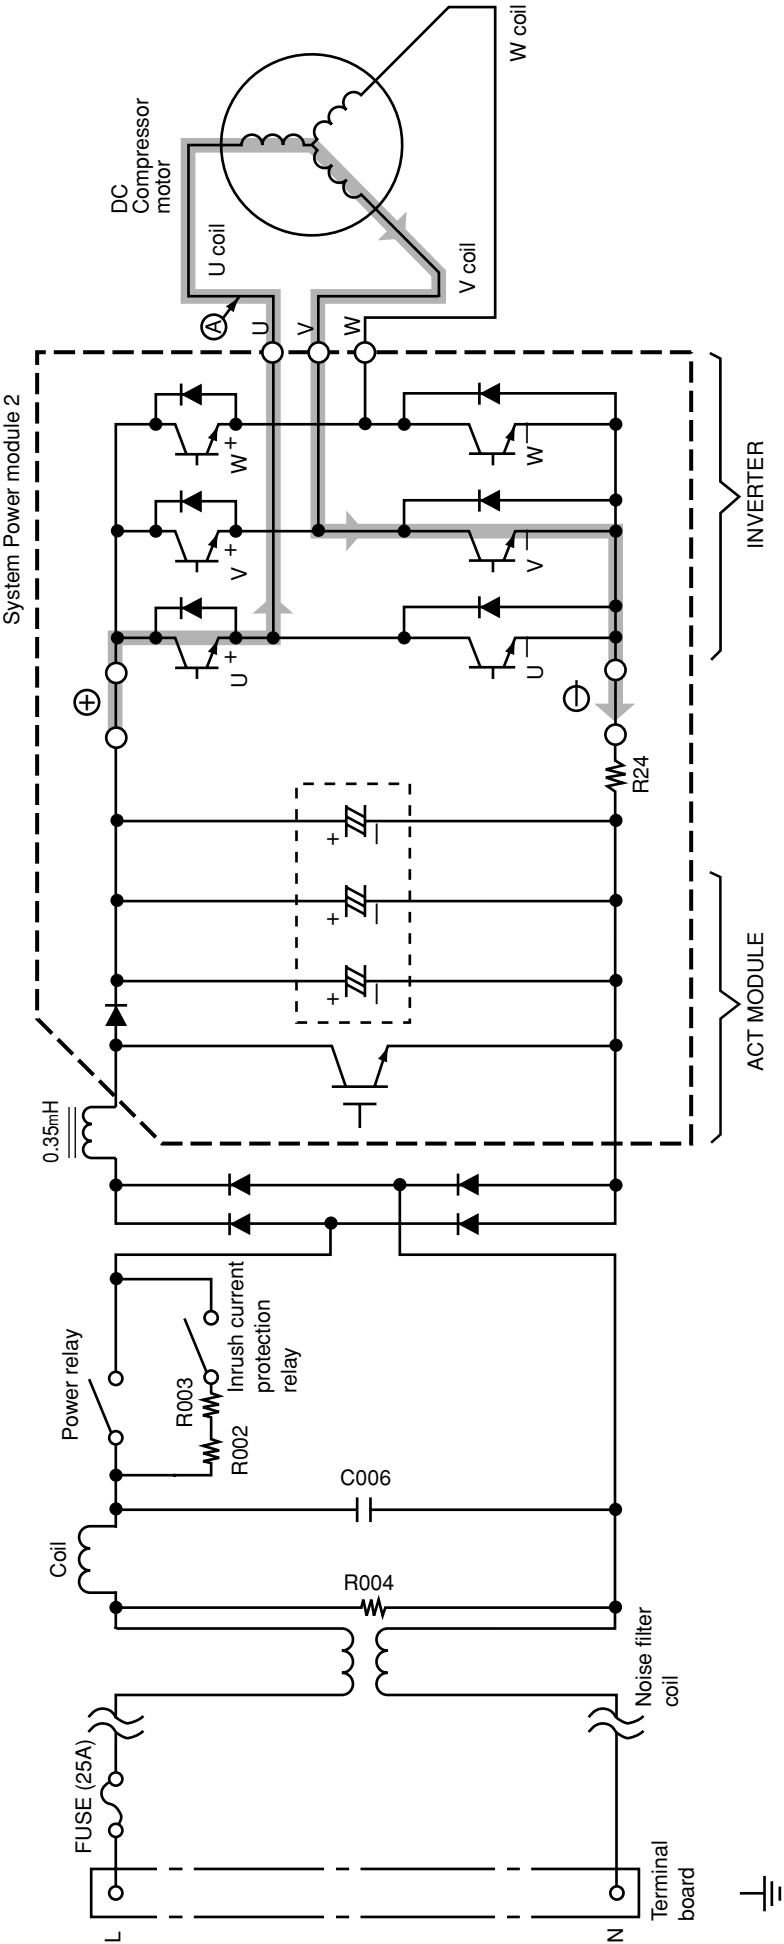
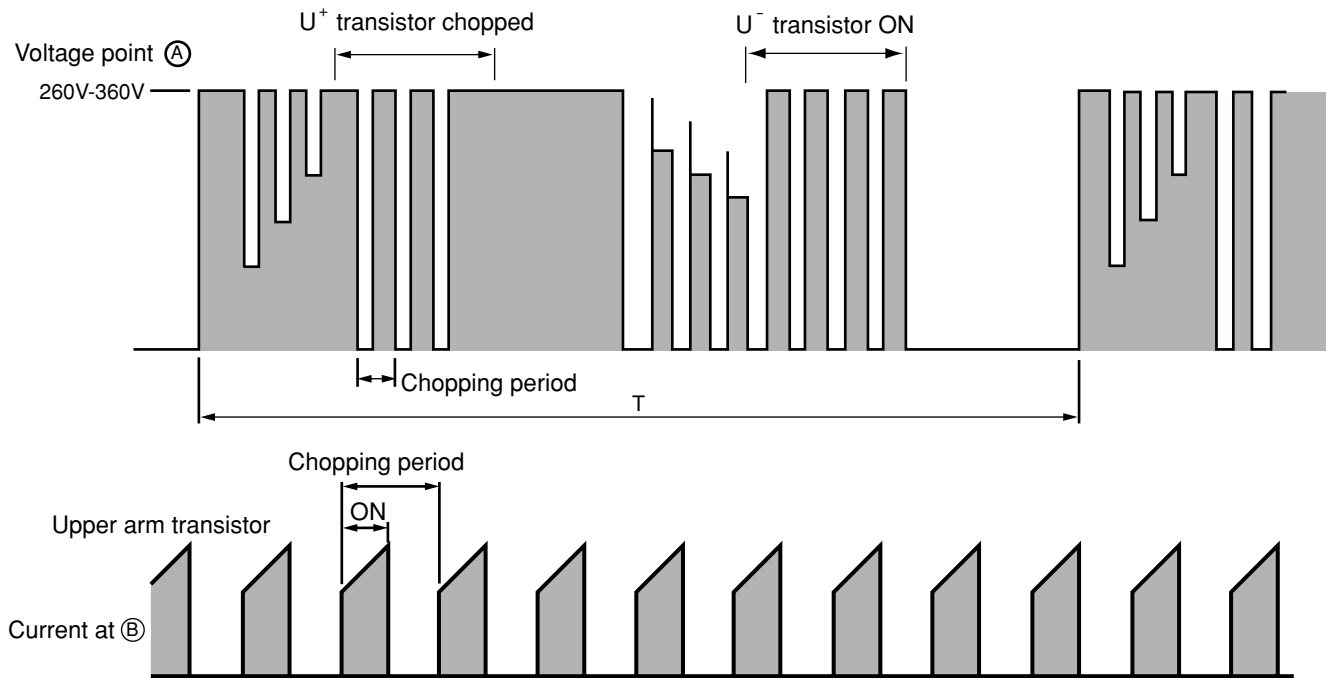

Fig. 3-1 System power module circuit (U⁺ is ON, V⁻ is ON)
Fig. 3-3 Voltage waveform at each point
- Fig. 3-1 shows the system power module and its peripheral circuit. (Current ACT module and power module are combined into one unit.) The three transistors on the positive \oplus side are called the upper arm, and the three transistors on the negative \ominus side, the lower arm.
- Fig. 3-3 shows voltage/current waveform at each point shown in Figs. 3-1 and 3-4. First half of upper arm is chopper, second half is ON, and first half of lower arm is chopper, second half is ON.
- When power is supplied $U^+ \rightarrow U^-$, because of that U^+ is chopped, current flows as shown below; ②
- (1) When U^+ transistor is ON: U^+ transistor \rightarrow U coil \rightarrow V coil \rightarrow V^- transistor \rightarrow DC current detection resistor \rightarrow Point ② (Fig. 3-1)
- Since current flows at point ⑤ only when U^+ transistor is ON, the current waveform at point ⑤ becomes intermittent waveform as shown in Fig. 3-3. Since current at point ⑤ is approximately proportional to the input current of the air conditioner, input current is controlled by using DC current (I_d) detection resistor.